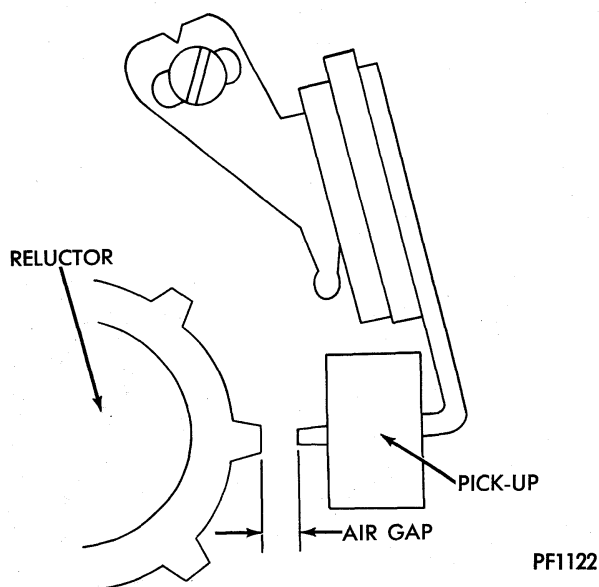

Fig. 16—Air Gap Adjustment
(5) Reconnect wiring harness at control unit and distributor. **NOTE: Whenever removing or installing the wiring harness connector to the control unit, the ignition switch must be in the "Off" position.**
(6) Check air gap between reluctor tooth and pick up coil. To set the gap (Fig. 16), refer to "Air